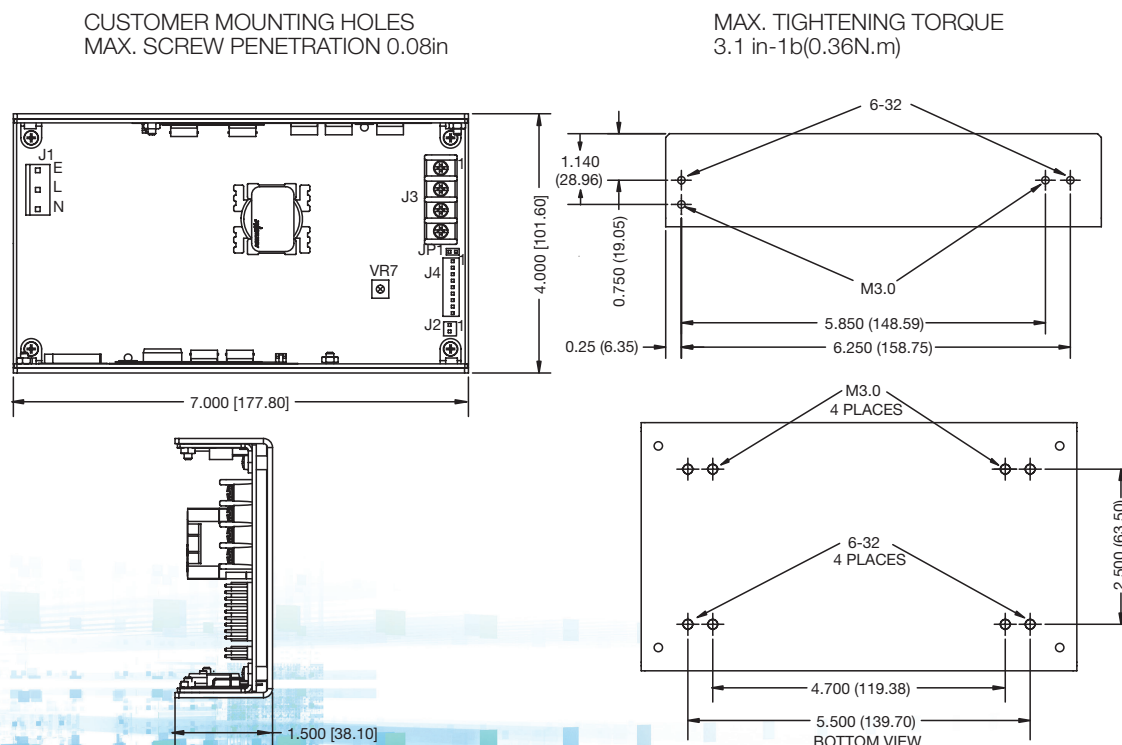

Figure 1: Derating Curve
- Free air convection. Maximum continuous output power not to exceed 175W. Refer to Figure 1 for the derating curve.